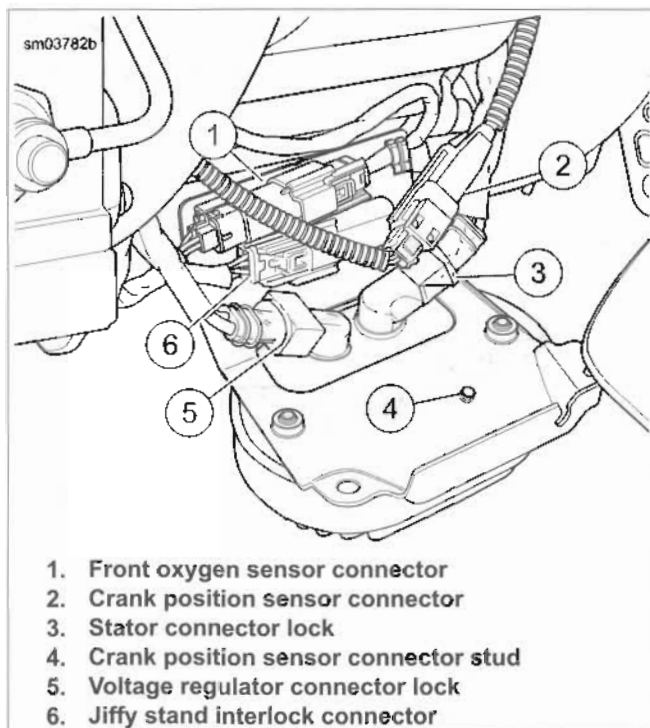

Figure 4-28. Voltage Regulator Connectors
2. See Figure 4-28. Disconnect front O2 sensor connector (1).
3. See Figure 4-28. Install front oxygen sensor connector (1).